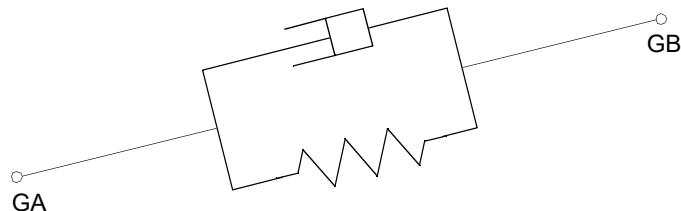

Figure 9-24 Spring and Damper Element
1. For noncoincident grids $GA \neq GB$ and if CID is blank, the line GA to GB is the element axis. In geometric nonlinear analysis, the element axis (line GA to GB) follows the deformation of grids GA and GB. See Figure 9-24.